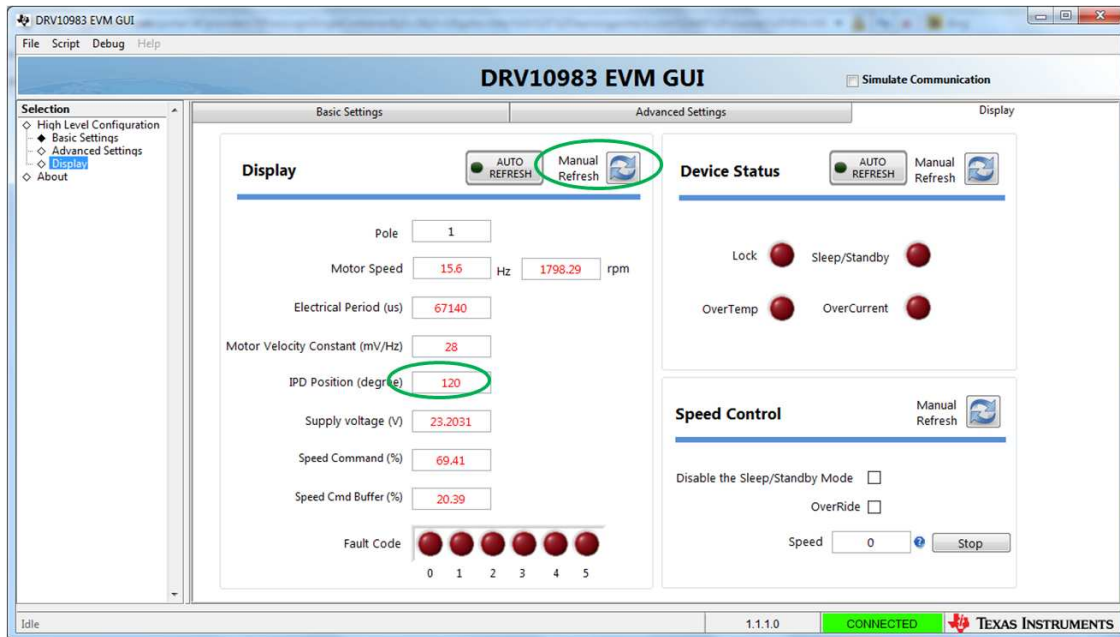

Figure 12. DRV10983x/75 EVM GUI Screenshot
8. Check IPD position on the 'Display' tab of the GUI (see Figure 12) by clicking the manual refresh button. It should display 60 or 120. If the GUI does not display 60 or 120, then the motor does not have enough inductance variance to be detected by IPD. In this case, **the motor is not suitable to work with IPD. (Use Align and Go for initial startup.)**